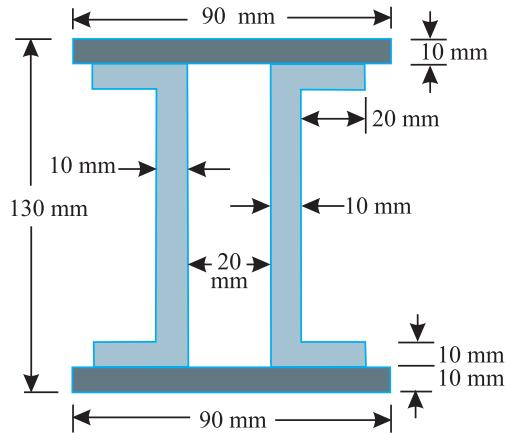

Fig. 7.22.
**Example 7.18.** A built up section is made by needing two stable and two channel sections as shown in Fig. 7.22.